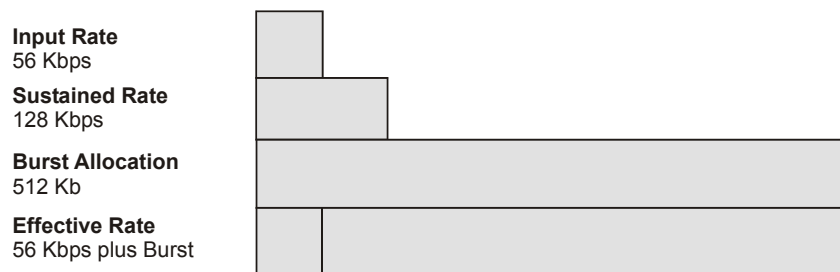
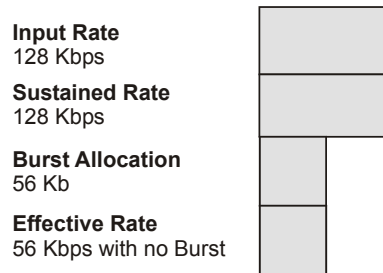

Figure 5: Burst Allocation vs. Sustained Rate, Example 1
Figure 7: Burst Allocation vs. Sustained Rate, Example 3
- less than the Sustained Data Rate yields a Sustained Data Rate equal to the Burst Allocation. (See Figure 5 and Figure 7.)